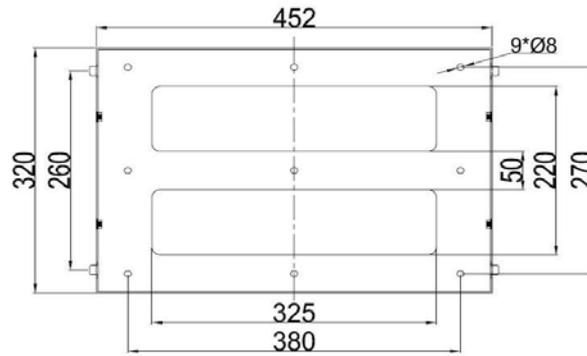

Fig.4 The size of mounting frame for IGSI-xxxxDJ/3, IGSI-10000DJ, IGSI-12000DJ
Step1: Drill 6 or 9 holes as illustrated in the Fig.4